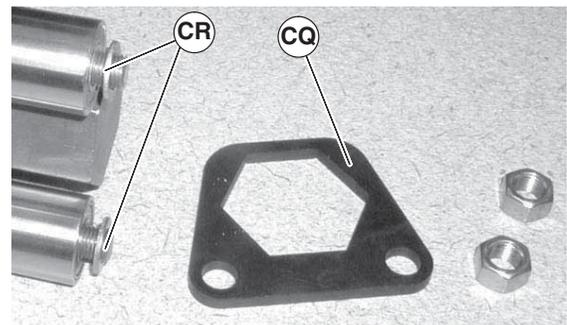

Figure 70
6. Remove support plates (Figure 70, item CQ) and washers (CR).